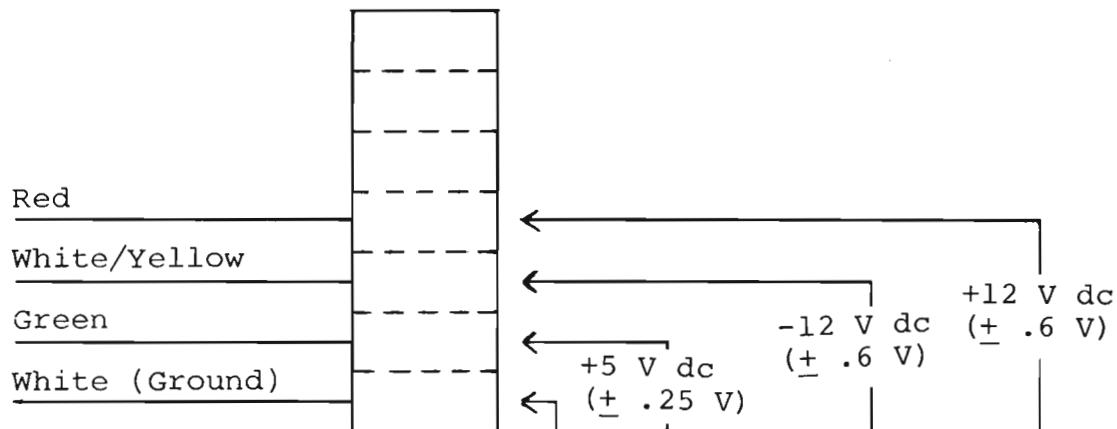

Figure 2-6. Sol-PC power connector and voltage measurements.
- ( ) Step 26. First check that wire color coding in Sol-PC power cable conforms with that shown in Figure 2-6 on Page II-21. Then connect Sol-PC power cable (4-wire cable which connects to J10 on Sol-PC) to Sol-REG. Tin ends of cable and solder green lead to pad X9, white lead to pad X1, red lead to pad X7 and white-yellow lead to pad X8.
- ( ) Check connector on Sol-PC power cable (4-wire) to insure it is wired as shown in Figure 2-6.
- ( ) Measure the voltages at the Sol-PC connector at the points indicated in Figure 2-6. The voltages must be as given in Figure 2-6. NOTE: Do not take voltage measurements at any other points in the power supply, even though they may be more accessible. It is important that the indicator voltages be available at the connector.